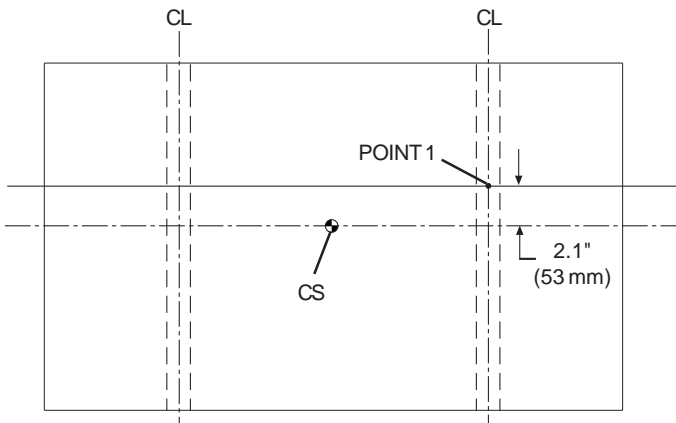
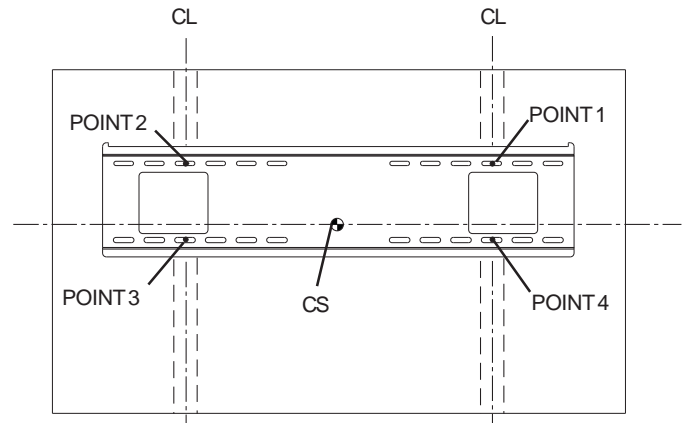

fig 1.1
fig 1.2
**1** Using a stud finder, locate the edges of the wood studs used in mounting this product. Use of an edge-to-edge stud finder is highly recommended. Based on its edges and using a level, draw a vertical line down the center of each stud. Mark a point (**point 1**) on the right stud centerline 2.1" above the center of screen as shown in figure 1.1. Hold wall plate (**AA**) over point 1. Using a level to ensure plate is horizontal, mark three more points (**points 2, 3, and 4**) as shown in figure 1.2.